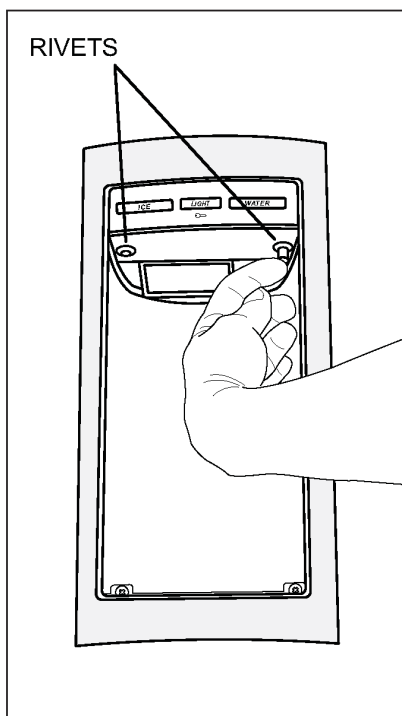

Figure 2-19. Dispenser Control Panel Removal, Extract rivets
1. Extract the center post of the plastic rivets using a fingernail, putty knife, or similar device (See Figure 2-19), then pull the rivets out.